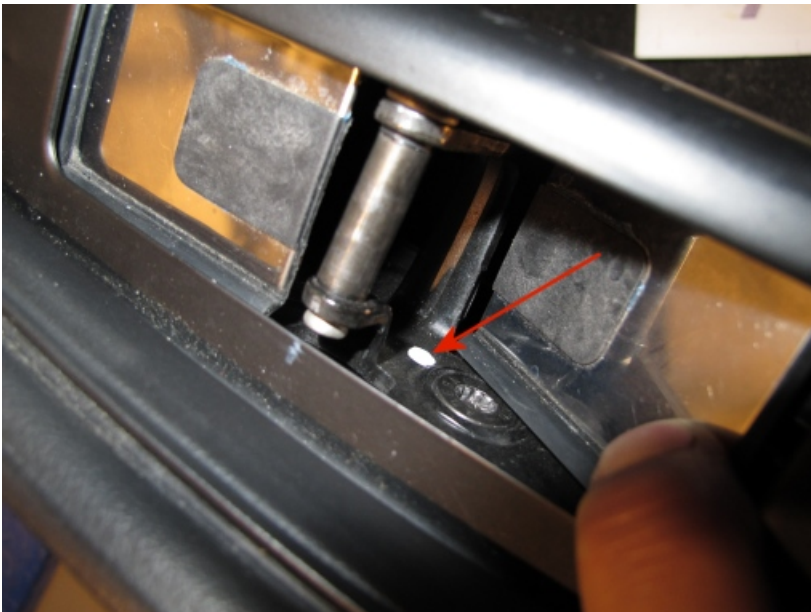

Figure 25
The load measured should be less than 1Kg. If the load measured to initiate the close cycle is less than 1Kg or the boot latches under its own weight and the boot completed three consecutive power open and close cycles then the campaign is complete, apply a white campaign identification mark to the boot striker plate (see Figure 25).
- Carry out boot lid function and force gauge test – if the load measured to initiate the close cycle is less than 1Kg and the boot completed three consecutive power open and close cycles then the campaign is complete, apply a white campaign identification mark to the boot striker plate (see Figure 25)
6. On completion apply a white identification mark to the boot striker plate (see Figure 25)
On completion apply a white identification mark to the boot striker plate (see Figure 25)